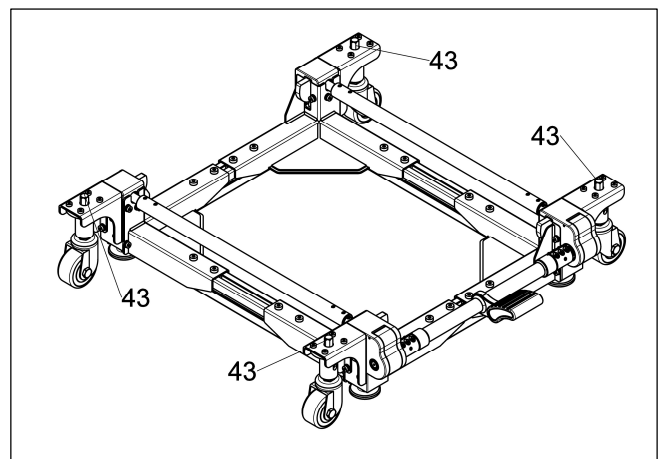

Fig.18
a. Use the Dual-purpose wrench "D" to rotate the regulating screw "43" (clockwise to lift the rollers; counterclockwise to lower the rollers), so that the machine's table is horizontal and all rollers are in contact with the ground. Ensure that the distance between the bottom of all support feet and the ground is greater than 25/64". (see **Fig.18**)